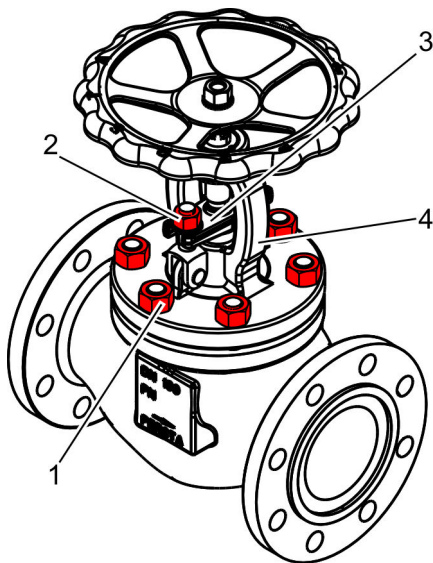

Fig. 25: Removing nuts
2. ➤ Use the hoist to safeguard the bonnet (Fig. 25/4) from falling off of the body.
3. ➤ Ensure that the bonnet (Fig. 25/4) and body cannot be lifted by the hoist.
Loosen and remove the nuts (Fig. 25/1) on the bonnet (Fig. 25/4).